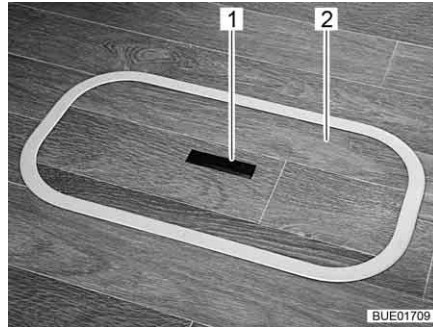
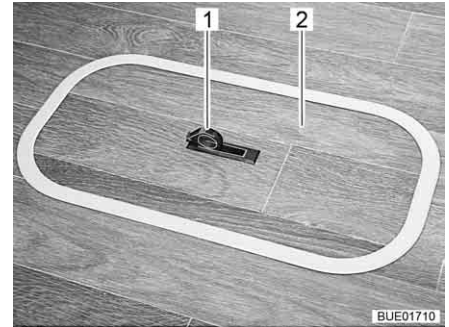

Fig. 54 Floor compartment cover (handle recessed)
Fig. 55 Floor compartment cover (handle swung out)
- Push one side of the grip plate (Fig. 54,1) downwards. The handle (Fig. 55,1) swivels upwards.
- Remove the cover (Fig. 54,2 or Fig. 55,2) upwards.